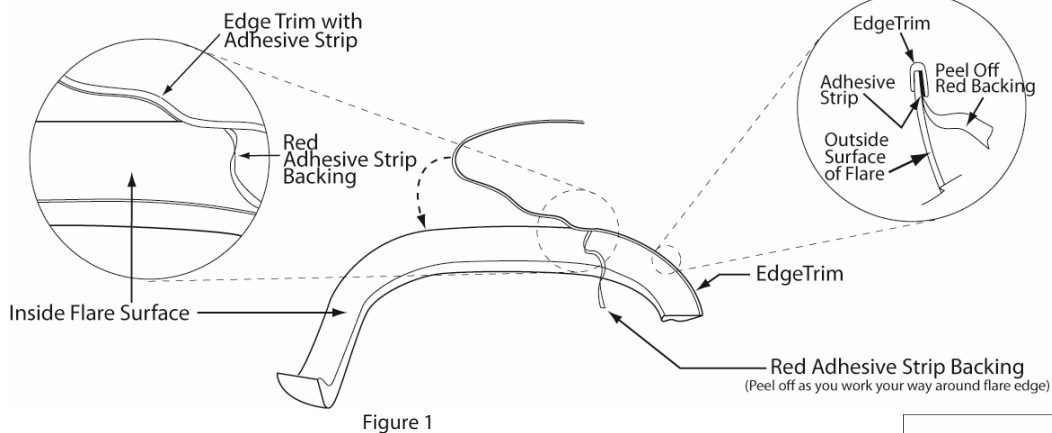

Figure 1
- 2. Press edge trim into place along edge of flare in one-foot increments, pulling red backing free as you continue to work your way around the flare. (Figure 1)